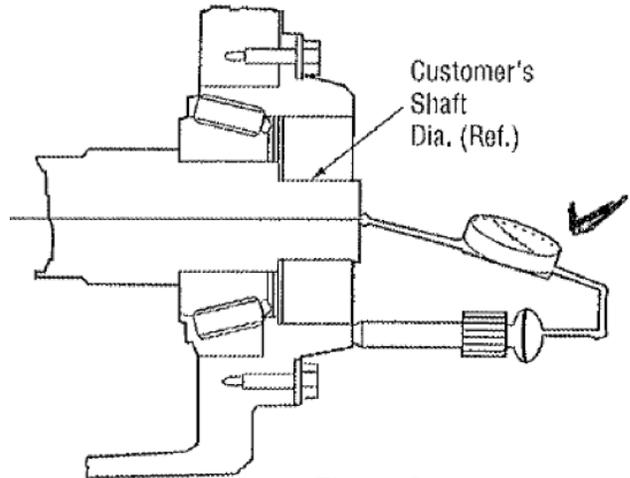

Figure 2
**Shaft Endplay:** If taper roller bearings are used, check the amount of end-play of the mounting shaft. The shaft end-play should not exceed .003 inches. End-Play is measured with a dial indicator at the end of the shaft. (See Figure 2) The base of the indicator is attached to the reducer housing. From the other end of the shaft an axial force is applied in both directions. IE: Push and Pull.